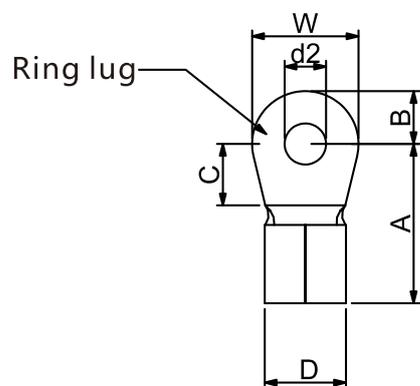

Figure 4-16
- Use Figure 4-16 to choose terminal wire size.